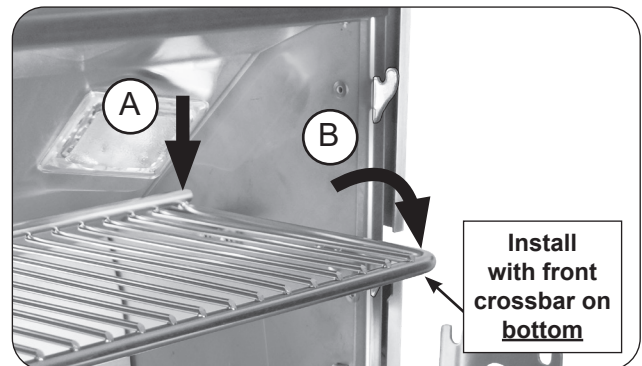

Fig. 27-3 Place warming rack for use
2. With the warming rack oriented as shown, carefully rest the rear of the rack onto the rear support plates (see Fig. 27-3, A), then lower the warming rack arms onto the lower hooks for use (see Fig. 27-3, B).